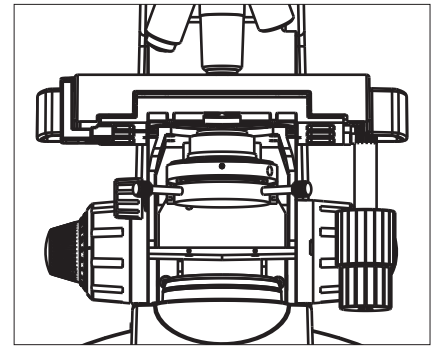

Fig. 1
1. Remove brightfield condenser from substage assembly and gently push in darkfield condenser in its place as shown in Fig.1